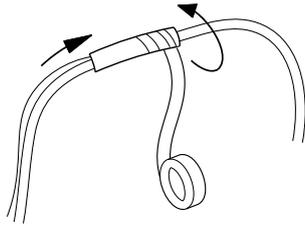

Fig. 27 Insulating the joint
- Pull the insulating hose around the motor conductors up over the joint. Wind insulating tape or similar around the ends of the insulating hose in order to fasten it over the joint. See figs 27 and 28.